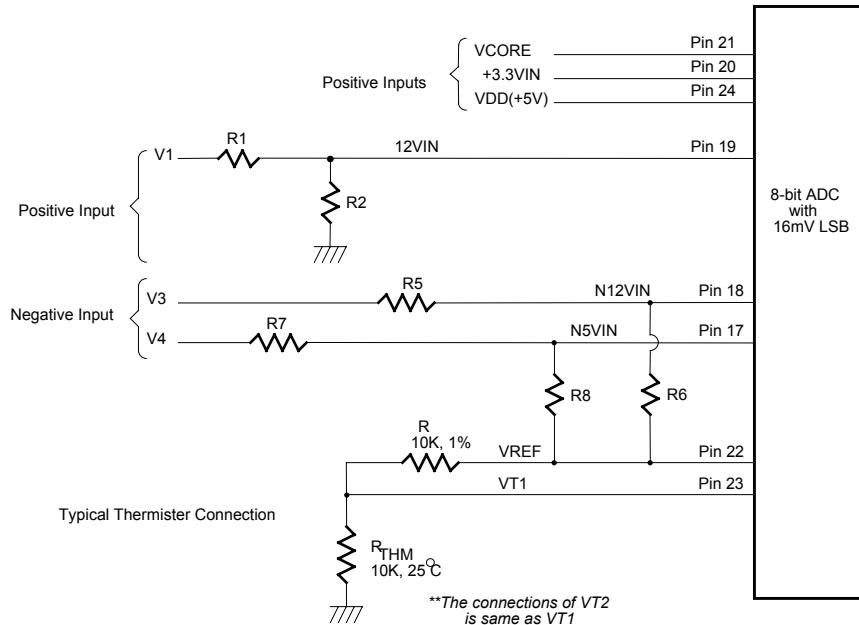

Figure 11.
The maximum input voltage of the analog pin is 4.096V because the 8-bit ADC has a 16mv LSB. Really, the application of the PC monitoring would most often be connected to power suppliers. The CPU V-core voltage ,+3.3V and battery voltage can directly connected to these analog inputs. The 5VSB and +12V inputs should be reduced a factor with external resistors so as to obtain the input range. As Figure 11 shows.
The negative voltage should be connected two series resistors and a positive voltage VREF (is equal to 3.6V). In the Figure 11, the voltage V3 and V4 are two negative voltage which they are -12V and -5V respectively. The voltage V3 is connected to two serial resistors then is connected to another terminal VREF which is positive voltage. So as that the voltage node N12VIN can be obtain a posedge voltage if the scales of the two serial resistors are carefully selected. It is recommended from Winbond that the scale of two serial resistors are R5=232K ohms and R6=56K ohm. the The input voltage of node -12VIN can be calculated by following equation.
The W83783S can connect three thermistors to measure three different environment temperature. The specification of thermistor should be considered to (1)  $\beta$  value is 3435K, (2) resistor value is 10K ohms at 25°C. In the Figure 11, the thermistor is connected by a serial resistor with 10K Ohms, then connect to VREF (Pin 37).